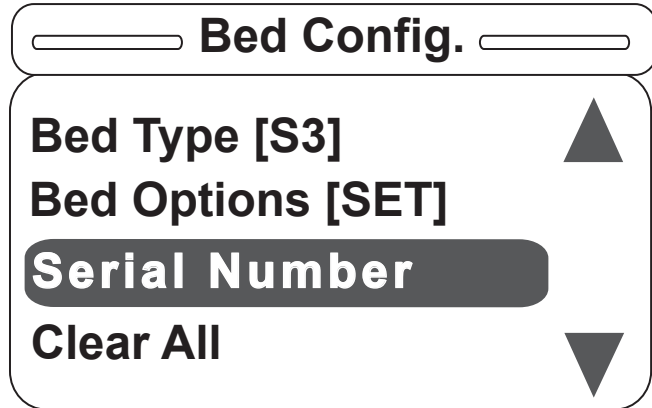

Figure S-22
22. Hitting “Exit” on the footboard panel while in the Bed Options screen will return the user to the Bed Config. main menu as shown in Figure S-22. Note that the user can see the state of the items previously set.